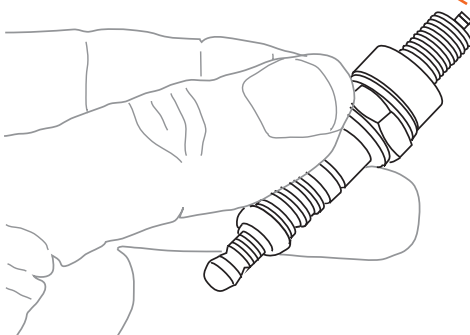

Figure 13
3. When installing a new spark plug, adjust the plug's gap to the specification on the technical specification chart. Do not pry against the electrode or the insulator, the spark plug can be damaged (see Figure 13).